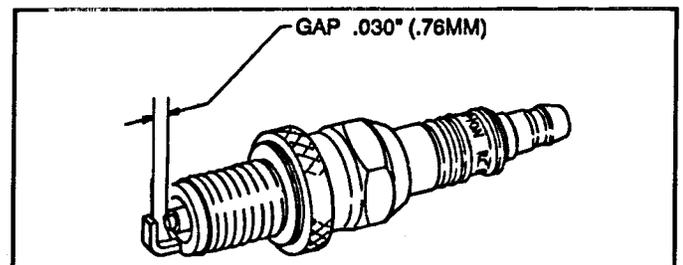

Figure 3
3. Set the air gap at .030" (0.76 mm). See Figure 3. Install the correctly gapped spark plug and gasket seal. Tighten the plug to 14 ft lbs (19 N•m).